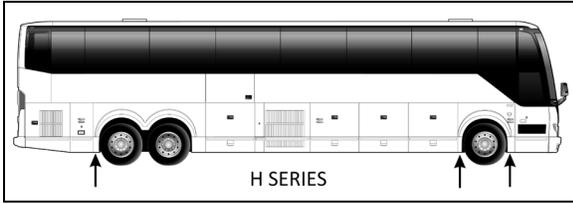

FIGURE 5: JACKING POINTS ON FRAME 18524
1. Raise vehicle by its jacking points on the body (Figure 5 or see Section 18, "Body" under heading "Vehicle Jacking Points"). Place jack stands under frame. Remove drive axle wheels (if required, refer to Section 13, "Wheels, Hubs And Tires".